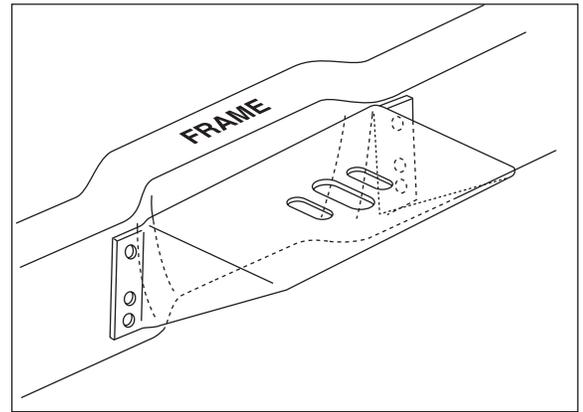

Figure 5
- a. *NOTE:* When installing the upper bracket on an F-250 or F-350, the mounting bolt holes can line up directly over the indent in the frame. This is an acceptable situation and is an approved method of installation for the product (Figure 5). Torque the mounting hardware to specifications, as noted. Do not over torque.